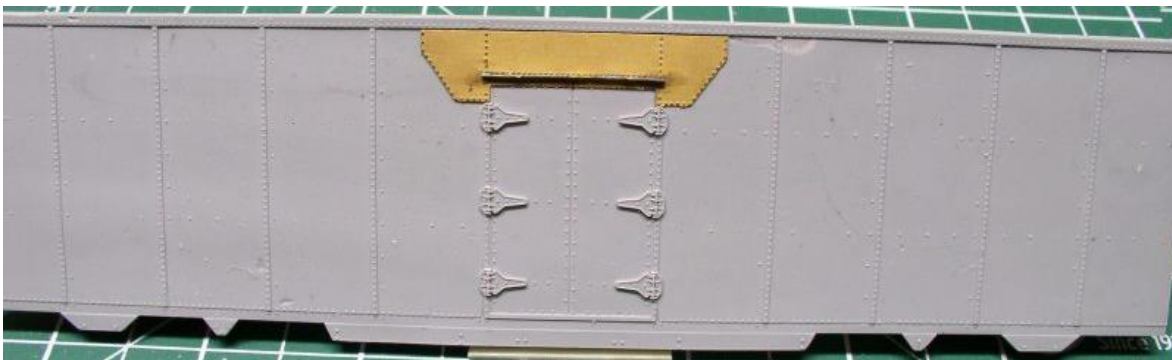

Figure B9
9. Remove the stirrup steps from the sprue only using a cut off disk. DO NOT try to clip them off using rail nippers or side cutters because the steps will twist to the point where they break. Drill a 0.020" hole directly under the corner post of one of the left sides for one of the tabs on the stirrup step. Test fit one stirrup step and mark where the other tab would go. Drill a 0.020" hole where that mark is. Test fit the stirrup step and glue in place. Do the same for the other side. See Figure B9.